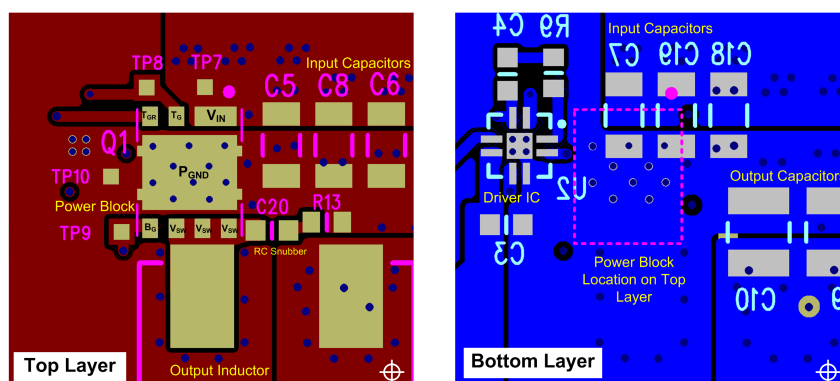

Figure 34. Recommended PCB Layout (Top Down View)
- The placement of the input capacitors relative to the power block's VIN and PGND pins should have the highest priority during the component placement routine. It is critical to minimize these node lengths. As such, ceramic input capacitors need to be placed as close as possible to the VIN and PGND pins (see Figure 34). The example in Figure 34 uses 6, 10-μF ceramic capacitors (TDK part # C3216X5R1C106KT or equivalent). Notice there are ceramic capacitors on both sides of the board with an appropriate amount of vias interconnecting both layers. In terms of priority of placement next to the power block, C5, C7, C19, and C8 should follow in order.
- The switching node of the output inductor should be placed relatively close to the power block VSW pins. Minimizing the node length between these two components will reduce the PCB conduction losses and actually reduce the switching noise level. In the event the switch node waveform exhibits ringing that reaches undesirable levels, the use of a boost resistor or RC snubber can be an effective way to reduce the peak ring level. The recommended boost resistor value will range between 1 Ω to 4.7 Ω depending on the output characteristics of driver IC used in conjunction with the power block. The RC snubber values can range from 0.5 Ω to 2.2 Ω for the R and 330 pF to 2200 pF for the C. Refer to Snubber Circuits: Theory, Design and Application (SLUP100) for more details on how to properly tune the RC snubber values. The RC snubber should be placed as close as possible to the Vsw node and PGND see Figure 34.⁽¹⁾
- Use the smallest drill size allowed in your design. The example in Figure 34 uses vias with a 10-mil drill hole and a 16-mil capture pad.